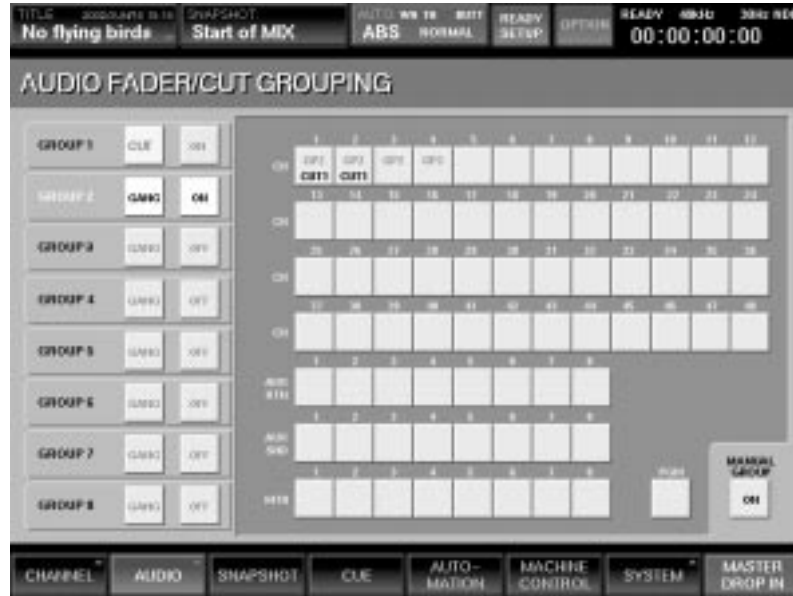

Figure 9
- 6** Next, we'll place channels 1, 2, 3, and 4 into a gang fader control group. Press the Mode button for GROUP2 repeatedly until it reads GANG. Then press the ON/OFF button for GROUP2 so that it reads ON. Touch the buttons for Channels 1, 2, 3 and 4: the words "GP2" appear in each, indicating that each of these channels have now been placed in Group 2, which has been designated as a gang fader control group. (See Figure 9)